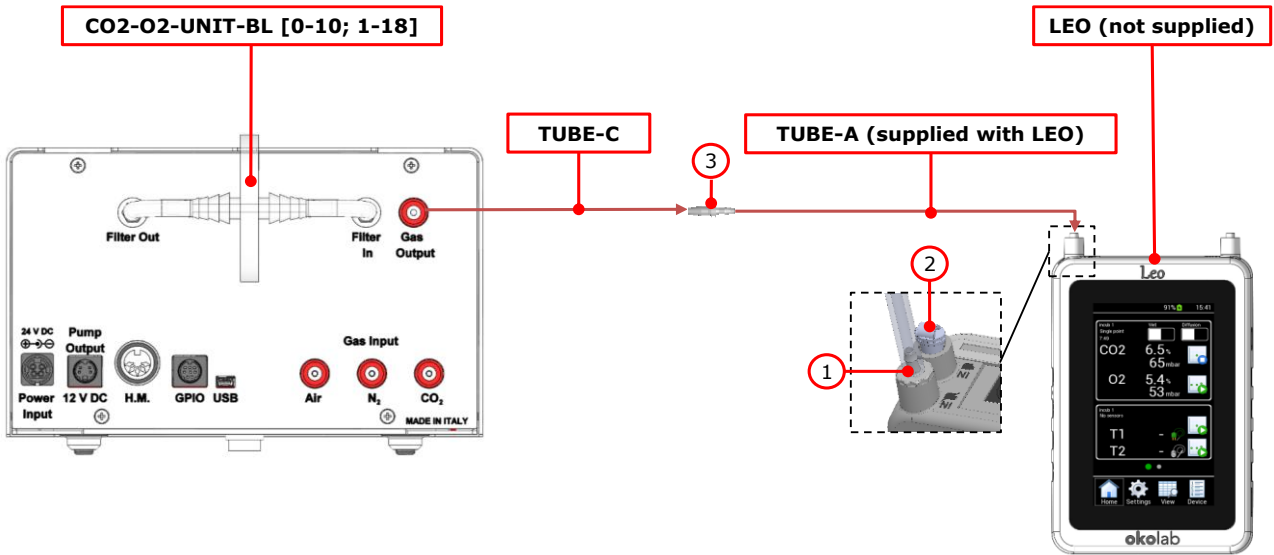

Figure 32. External Gas Meter Connection.
1. Connect the TUBE-C to the TUBE-A (supplied with LEO, Figure 31), using the Fitting tube (3 in Figure 32) supplied with LEO.
2. Connect the TUBE-A to LEO Gas Inlet port labeled with icon  (1 in Figure 32).
3. Put the cap on LEO Gas Input port labeled with icon  (2 in Figure 32).